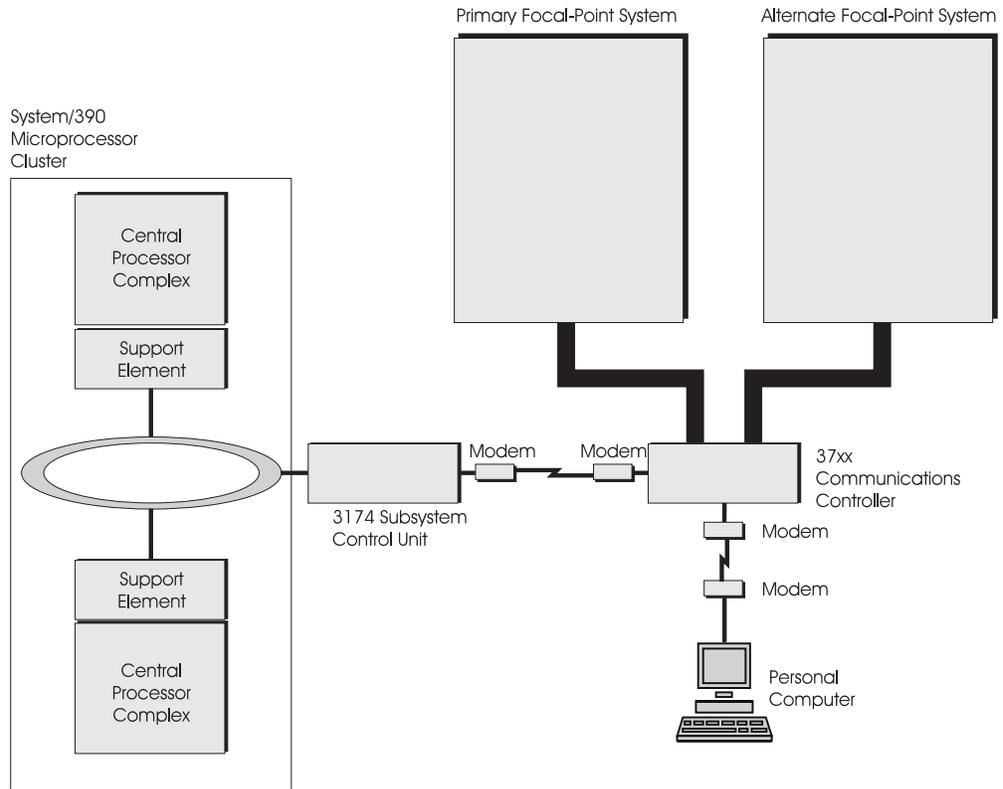

Figure 25. Alternate and Primary Focal Point Systems Connections to a Personal Computer through an SDLC Link
**SDLC Connection:** The personal computer or a System/390 support element connects to the alternate focal point system through an SDLC connection over a leased line in the same way as to the primary focal point system. Figure 25 shows a PC with an SDLC card connected through a 37xx communications controller to both the primary and alternate focal point systems. The alternate focal point system does not have to be in the same physical location as the primary focal point system. Figure 25 also shows a connection to a System/390 microprocessor cluster.